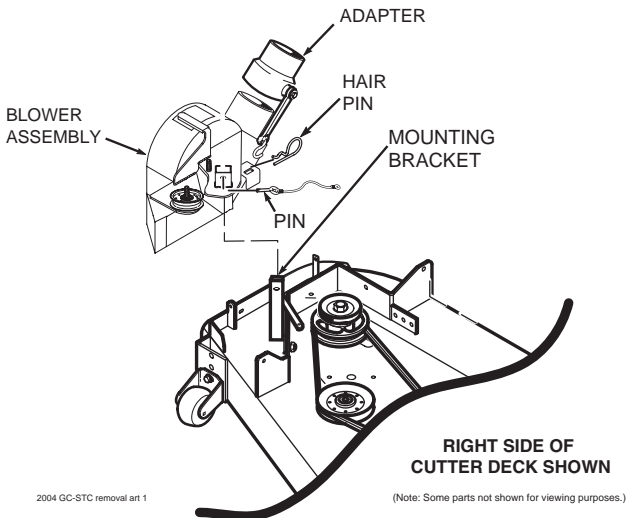

FIGURE 4-1
2. Remove the rubber strap holding the adapter to the blower assembly and the large hair pin securing the blower to the discharge chute mounting bracket. See Figure 4-1.
3. Remove the pin and hair pin holding the blower assembly to the mounting bracket on the cutter deck and remove the blower assembly. See Figure 4-1.